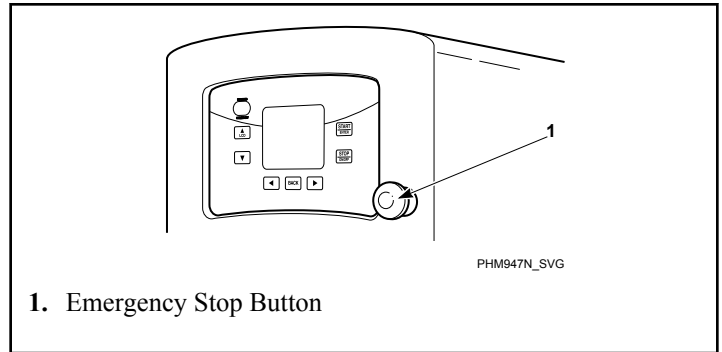

Figure 34
9. Emergency stop button (refer to *Figure 34*) should be depressed to terminate machine operation when any unsafe condition is present during machine operation.